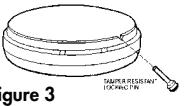

Figure 3
6.7 To make your carbon monoxide alarm tamper resistant, a locking pin has been provided in the bag with the screws and anchors. Using this pin will deter children and others from removing the alarm from the mounting plate. To use the pin, insert it into the hole in the side of the alarm after the alarm has been installed on the mounting plate (see fig. 3).